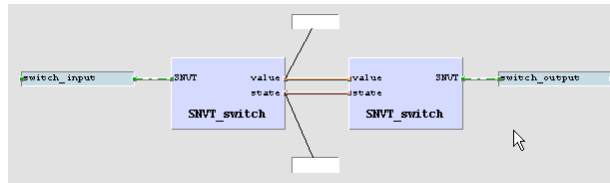

Figure 56: Online Test fields
13. Place the fields above and below the drawing as shown in Figure 56, then press the **Save** button to save your changes.